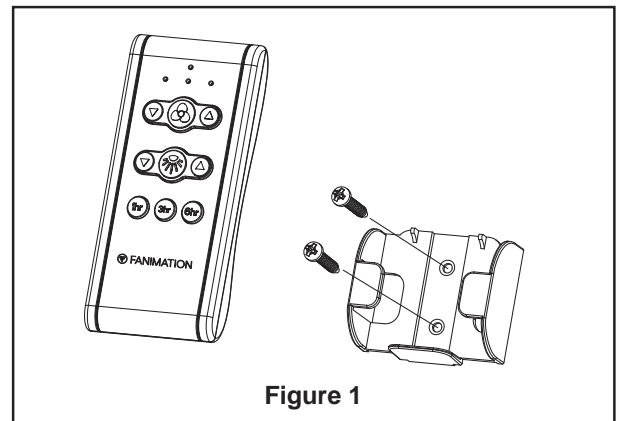

Figure 1
- 1. Installing Wall Holder:** (Figure 1)